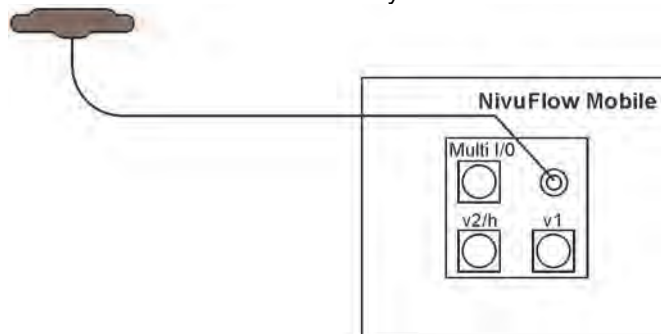

Fig. 28-1 Connecting the 2G/3G/4G antenna
1. Plug the antenna cable into the socket on the unit (Fig. 28-1) and tighten the screw connection manually.